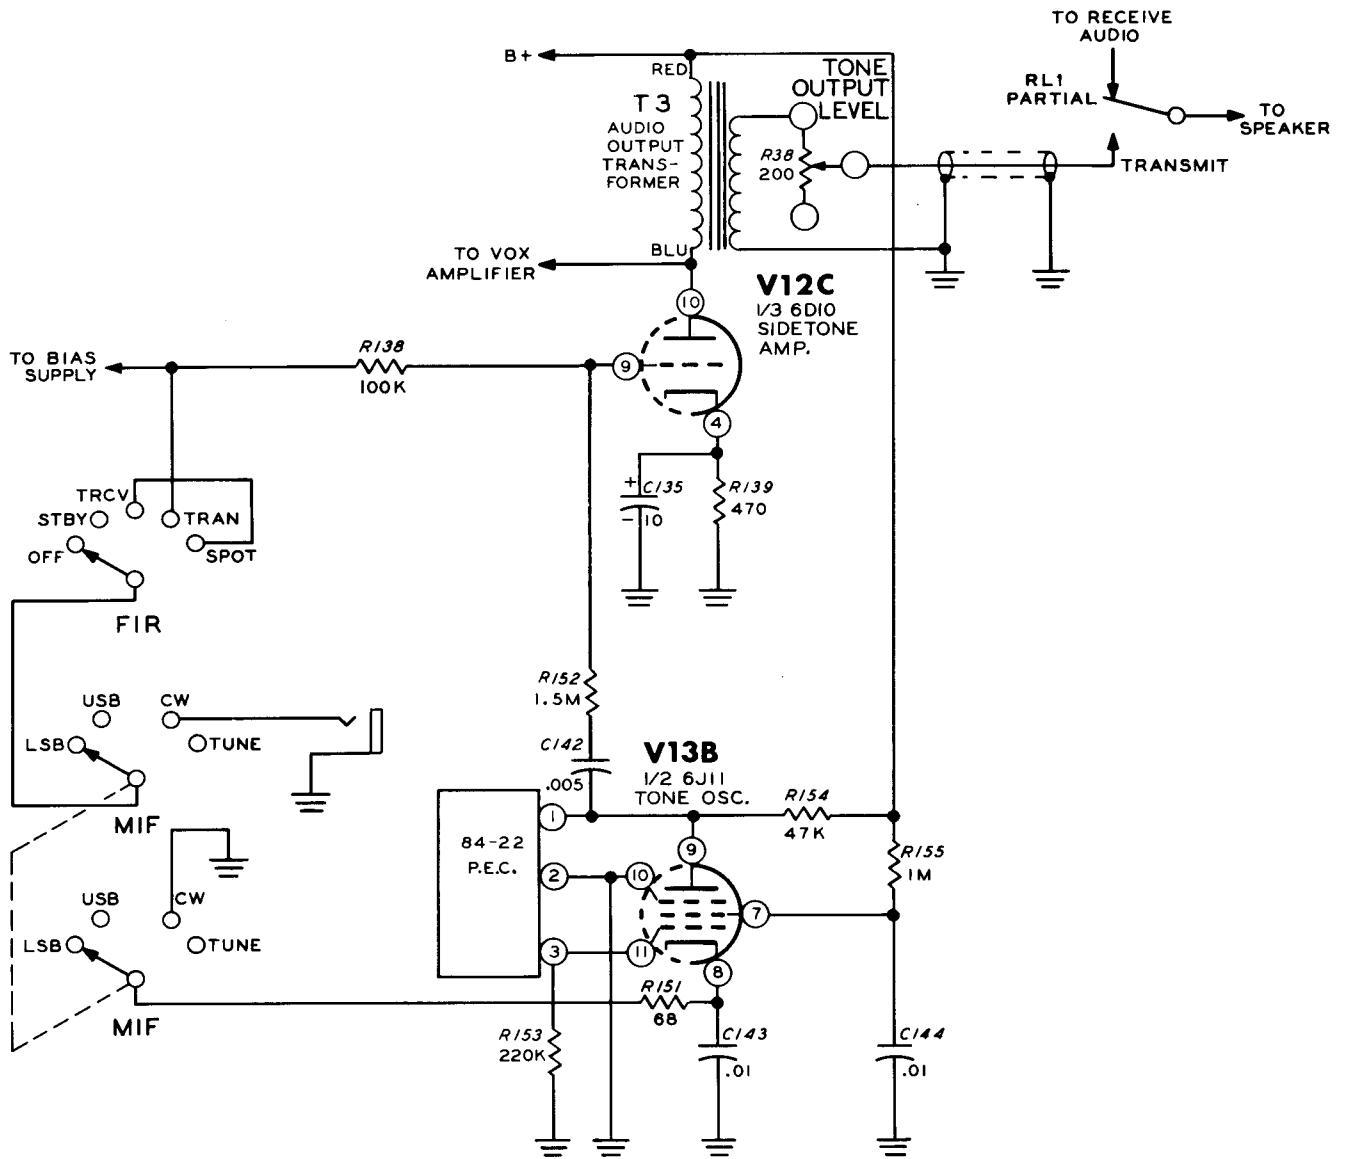

Figure 6-4
**TONE OSCILLATOR AND TONE AMPLIFIER (Figure 6-4)**